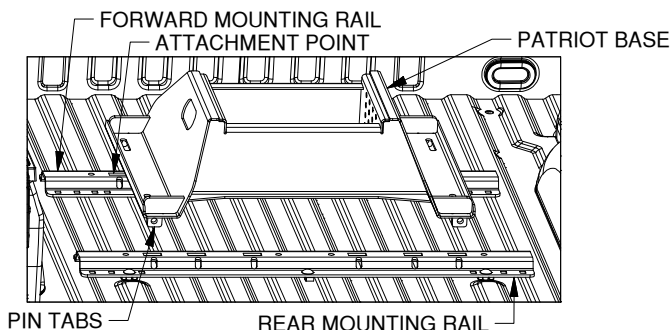

Figure F1: View looking into the truck bed from the tailgate.
1. **Position the forward mounting rail.** For this step the base which will be used in the mounting rails is required. Place a mounting rail into the truck bed in front of the rear mounting rail. Place the base over the rail attachment points and carefully lower it until the pin tabs pass through the attachment points on the rear mounting rail. Attach the forward mounting rail to the forward mounting points on the base. The base should rest flat against the top of the rails, see Figure F1. With the base still attached ensure that the forward rail is centered in the truck bed.